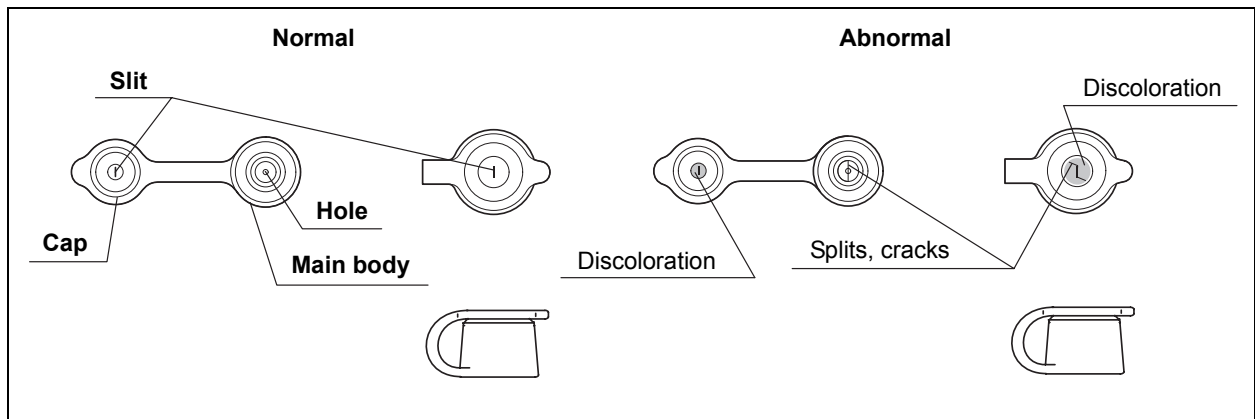

Figure 3.8
1. Confirm that the slit and hole on the biopsy valves have no splits, cracks, deformation, discoloration or other damage (see Figure 3.8).